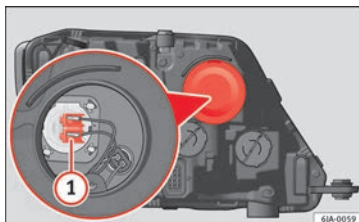

Fig. 90 Changing main beam headlight bulbs.
- Remove connector » **Fig. 90 1** by pulling outward.